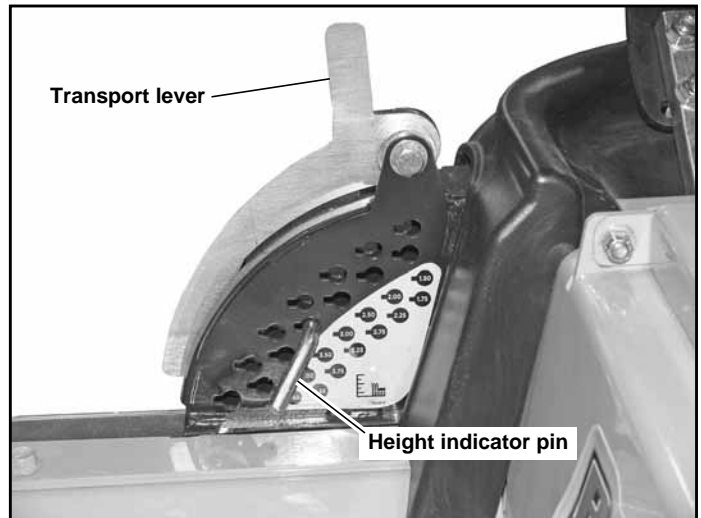

Figure 6-2
5. Lower the deck and place the deck cutting height indicator pin in the "H" (3.25") position. Figure 6-2
6. Loosen the four (4) deck leveling nuts until all of the linkage rods are loose and the deck is sitting on the four (4) 3.00" blocks. The deck **must** be resting on the four (4) 3.00" blocks. Figure 6-2
7. Adjust one (1) of the deck leveling nuts until the deck